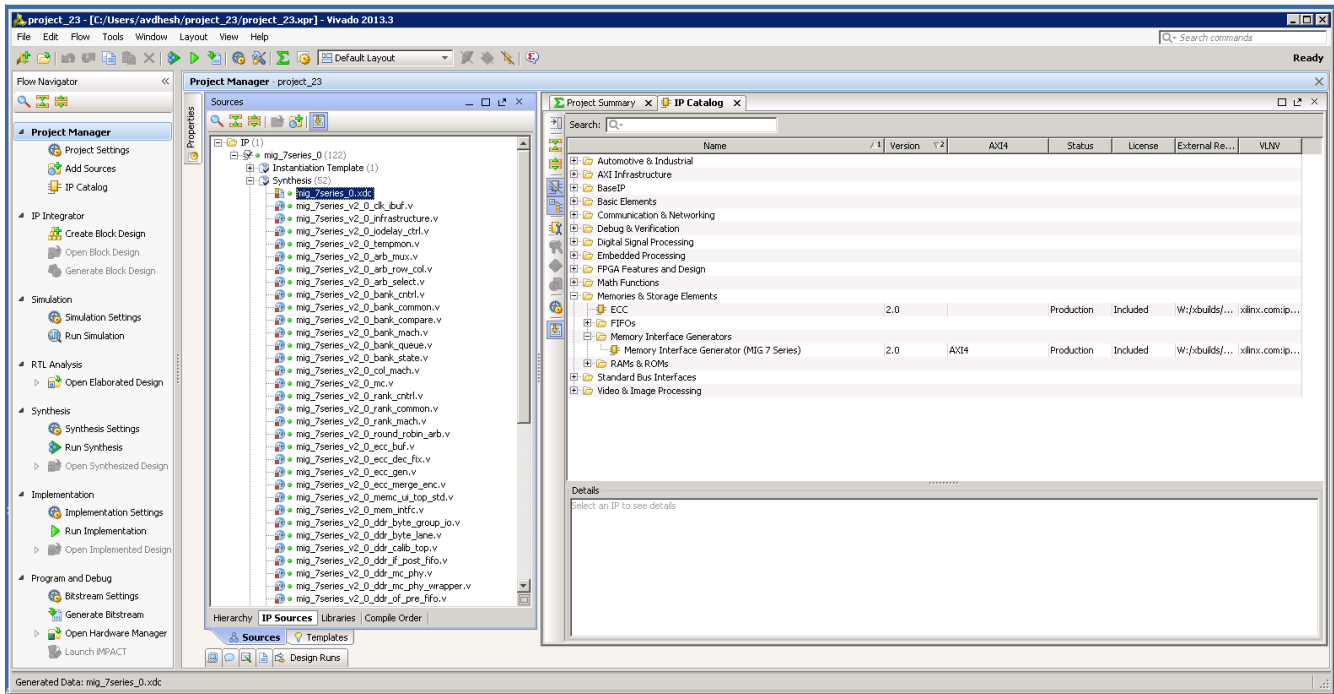

Figure 2-34: Vivado Project – RTL and Constraints Files
- All user-design RTL and constraints files (XDC files) can be viewed in the **Sources > Libraries** tab (Figure 2-34).